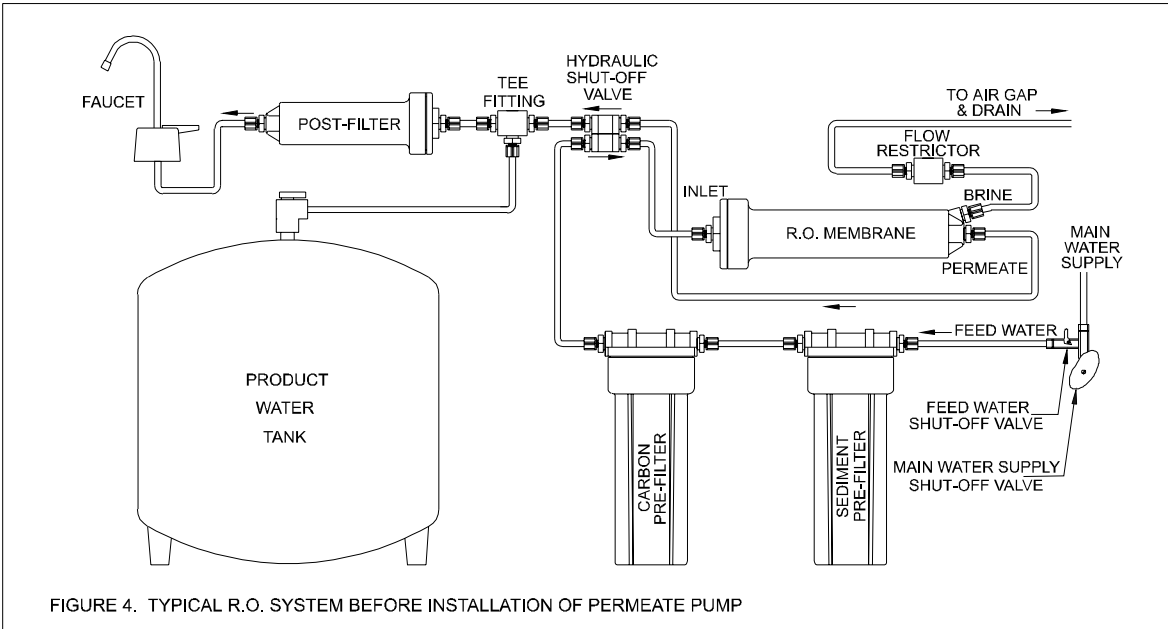

FIGURE 4. TYPICAL R.O. SYSTEM BEFORE INSTALLATION OF PERMEATE PUMP
7. Locate the product water (permeate) tube exiting (after) the membrane leading to the inlet side of the hydraulic shut-off valve. The outlet tube from the hydraulic shut-off valve leads to the TEE on the inlet side of the post-filter which leads to the product water tank and the product delivery faucet as shown in Figure 4.